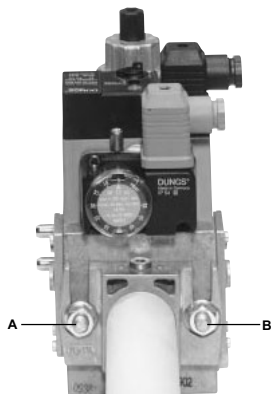
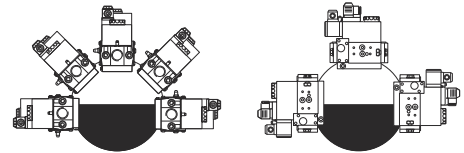

Fig. 3
Fig. 6
- 4 according to the reference showed on Fig. 3, fix the flange to the boiler's stud bolts **D**, without completely fastening;
3. tighten screws A, B, C and D (Fig. 3 - Fig. 4), according to the mounting positions (Fig. 6);